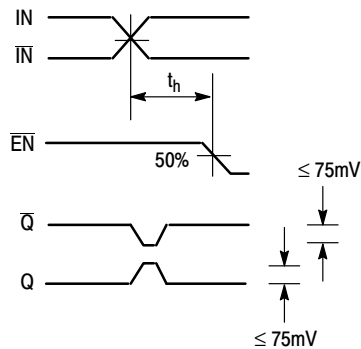

Figure 4. Hold Time
6. The hold time is the minimum time that EN must remain asserted after a negative going IN or a positive going \bar{IN} to prevent an output response greater than $\pm 75\text{ mV}$ to that IN/ \bar{IN} transition (Figure 4).
- The hold time is the minimum time that \overline{EN} must remain asserted after a negative going IN or a positive going \overline{IN} to prevent an output response greater than $\pm 75\text{ mV}$ to that IN/\overline{IN} transition (Figure 4).